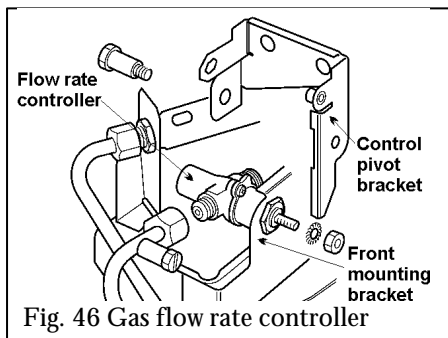

Fig. 46 Gas flow rate controller
14.11 TO REMOVE THE GAS FLOW RATE CONTROLLER (See figure 46)